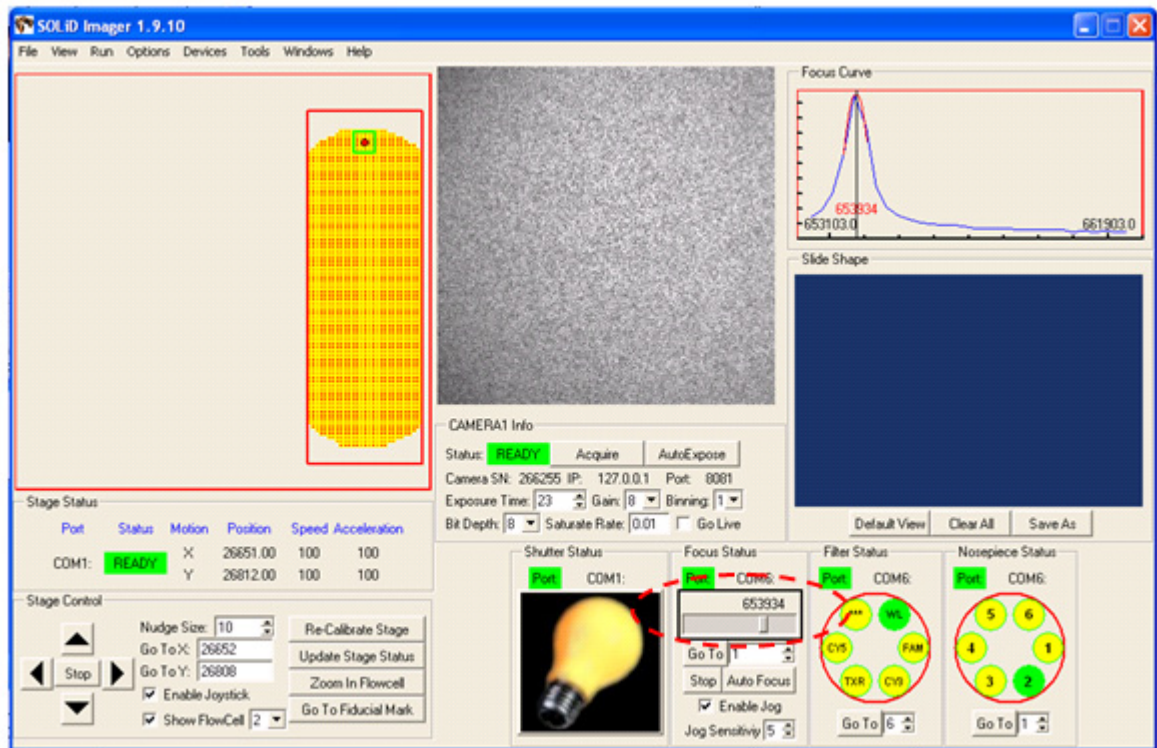

Figure 85 Use the black box to change the focal distance.
6. Click the focus slider bar in the Imager window. A black box appears (see Figure 85).